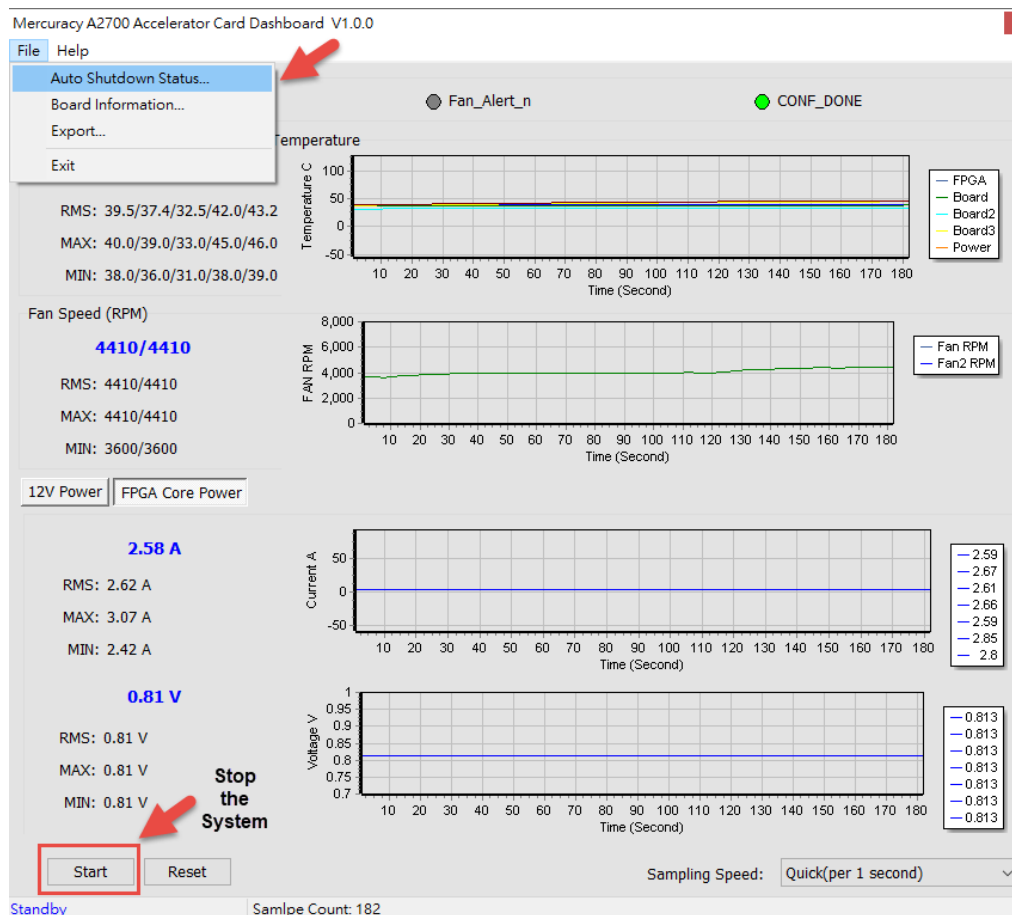

Figure 4-16 File Menu Options
- **File Menu:** The user can click “File” menu at the top left of the GUI (See **Figure 4-16**) and some options such as board information and status export will appear. Note that to activate these functions, you will need to **stop** obtaining the board status (i.e. Don't Press “Start” button or Press “Stop” button) in the GUI. Detailed introductions of these functions are described in below.